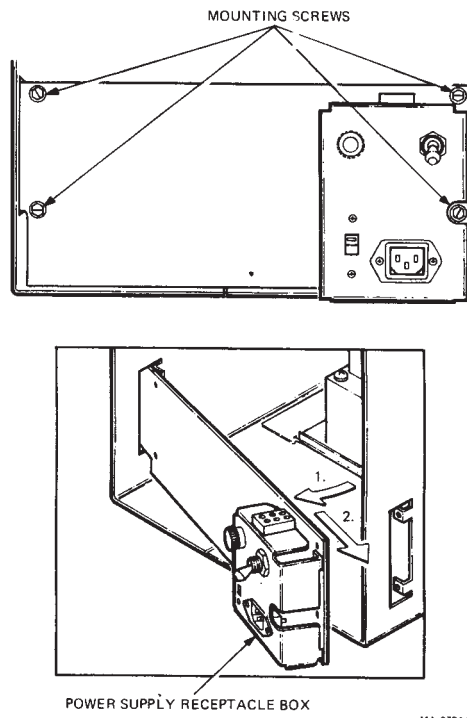

Figure 2-12 Power Supply Board Removal
6. Remove the four screws holding the power supply board to the chassis (Figure 2-12).
7. Pull the power supply receptacle box out, swinging the board out as shown in the inset in Figure 2-12.